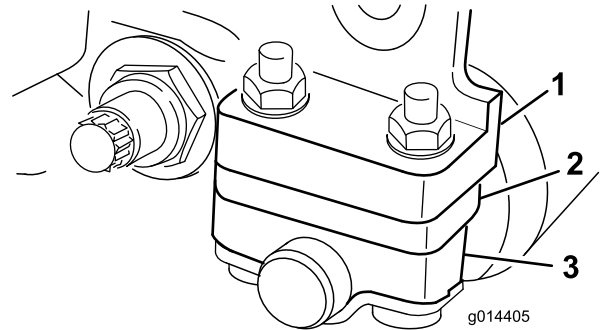

**Figure 11**
1. Bedbar adjusting screw (2)
B. Insert a long strip of cutting performance paper between the reel and bedknife, perpendicular to the bedknife (Figure 11), then **slowly** rotate the reel forward; it should cut the paper; if not, repeat steps A and B until it does.
11. Insert a long strip of cutting performance paper (Toro Part No. 125-5610) between the reel and bedknife, perpendicular to the bedknife (Figure 11), then **slowly** rotate the reel forward; it should cut the paper; if not, turn each bedbar adjusting bolt clockwise 1 click and repeat this step until it cuts the paper.